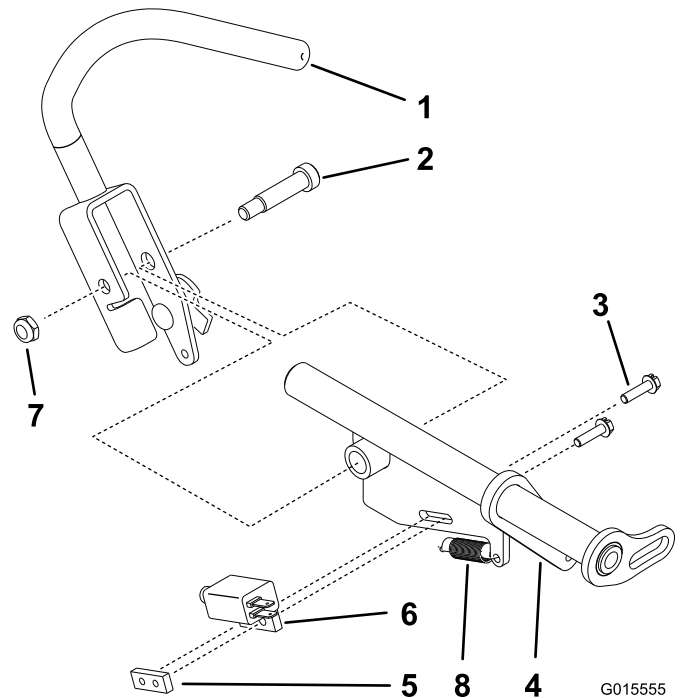

Figure 7
5. Disconnect the spring from the right hand motion control bracket (Figure 7).
6. Remove the switch from the right hand motion control bracket (Figure 7).
7. Remove the shoulder bolt and right hand motion control lever from the right hand motion control bracket (Figure 7).
1. Install the right hand motion control lever onto the new motion control bracket with the existing shoulder bolt and locknut (Figure 7).
2. Install the existing OPC switch with existing screws and switch nut to the new motion control bracket (Figure 7).
3. Connect the existing spring to the right hand motion control bracket and existing right hand motion control lever (Figure 7).